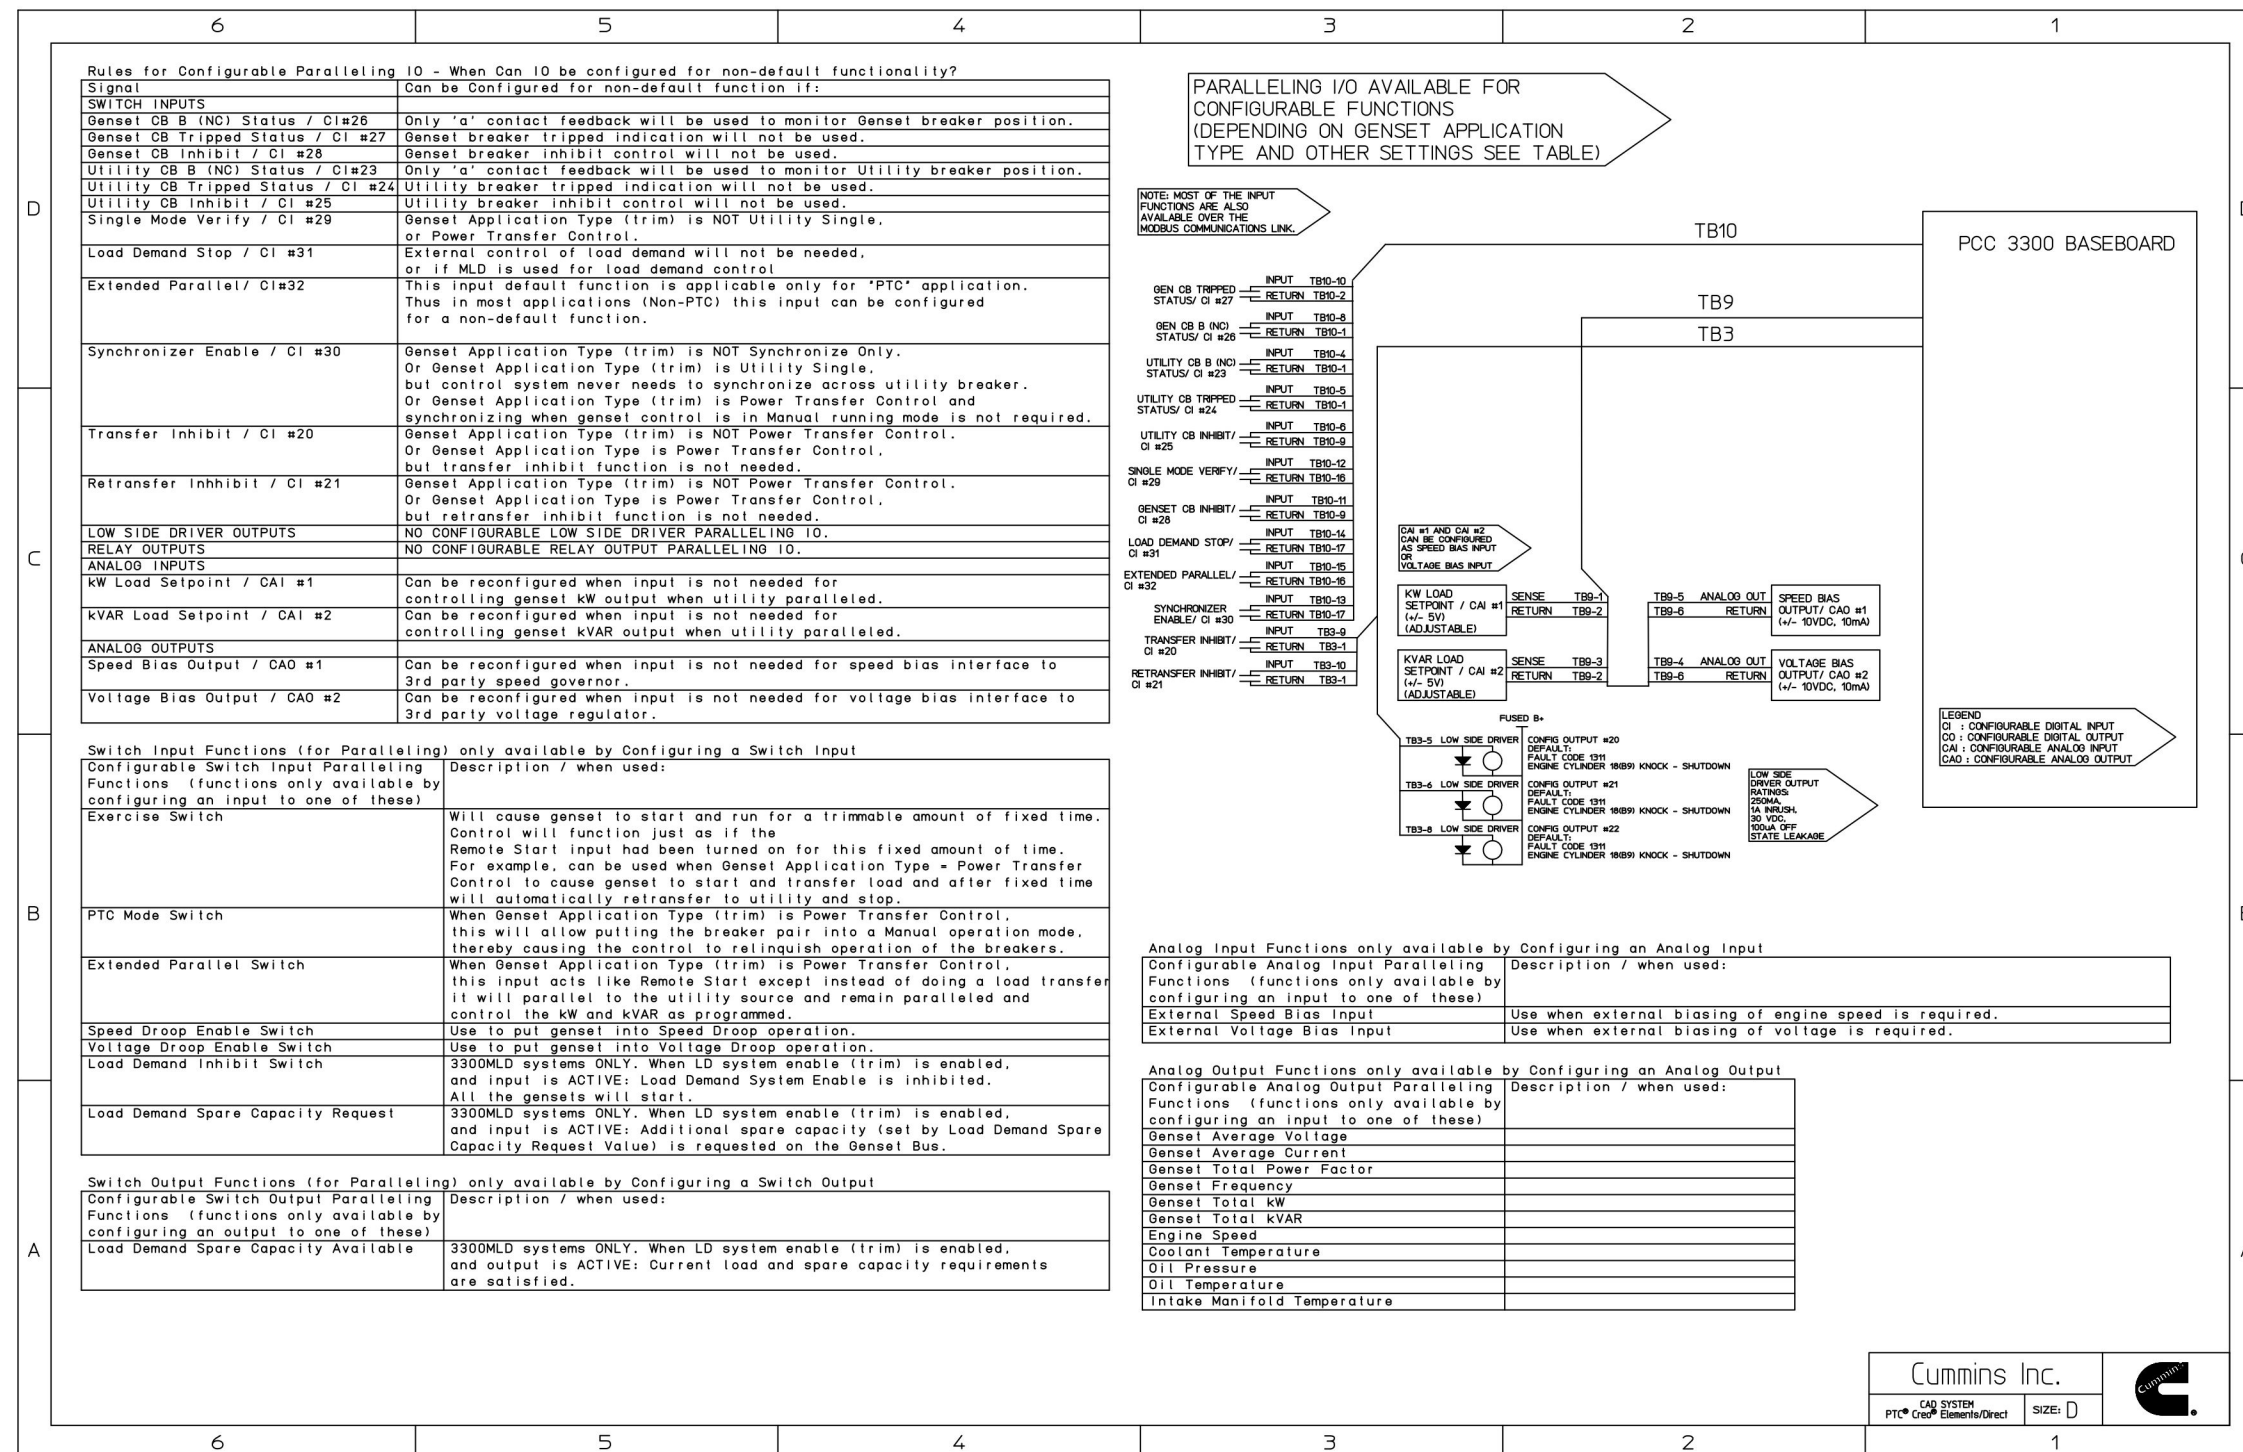

FIGURE 111. POWERCOMMAND 3.3 PARALLELING CONNECTIONS - CONFIGURABLE PARALLELING I/O
- Figure 111. PowerCommand 3.3 Paralleling Connections - Configurable Paralleling I/O 415